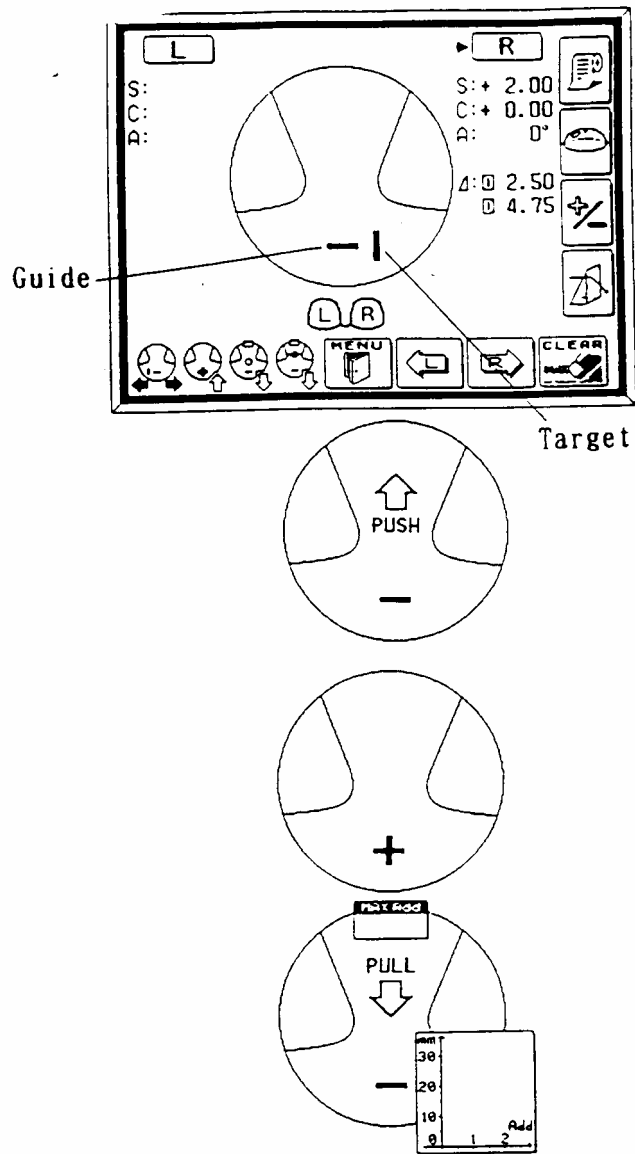

Figure 3-3. Measuring the lens
1. Press the PPL mode button (the second button on the right hand side of the display screen). Four lens graphics will appear on the bottom left hand side of the LED screen to indicate that you are now in the PPL mode (Figure 3-3).
4. Align the target (vertical line) by moving the lens sideways so that the target is brought to the middle of the guide (horizontal line) (Figure 3-3).
5. When the target is within an acceptable range, the “PUSH” sign with an up arrow will appear and the target line will disappear (Figure 3-3).
6. Push the lens forward slowly until the target changes to a plus sign (Figure 3-3).
7. When the distance value is stable, a small beep sounds and the “PULL” sign with a down arrow appears (see Figure 3-3).